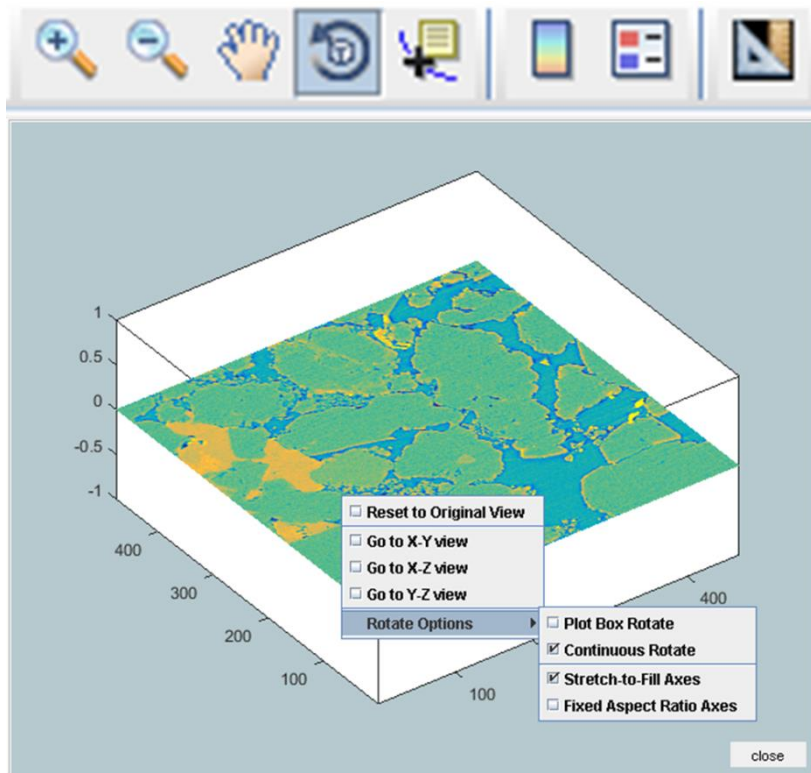

Figure 5: Rotate tool and right click menu options
- As demonstrated in Figure 5, after selecting the pan option from the toolbar, left click and hold on the displayed image and move the cursor left and right to rotate the image. The image can be rotated in a clock-wise or anti-clockwise direction.
- Right clicking opens a uimenu with further sub options (see Figure 5).